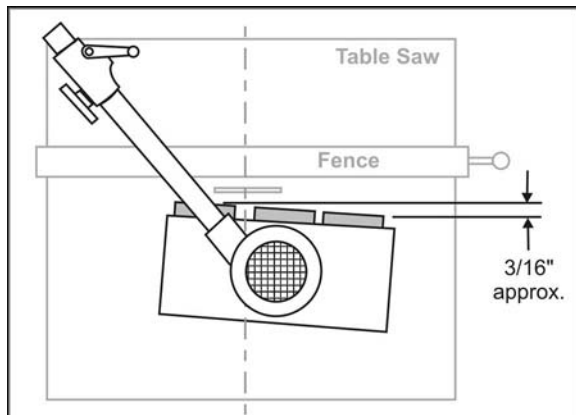

Figure 20
- Position the 3-roller stock feeder so that the axis of the saw blade lines up between the center roller and outfeed roller. (See Figure 20.) Position the 4-roller stock feeder so that the axis of the saw blade lines up between the center wheels. These positions will allow the Stock Feeder to grip the offcut of the workpiece as it leaves the blade.
- Rotate the Stock Feeder so that the direction of feed is angled slightly toward the fence by approximately $3/16''$ (5mm); that is, the outfeed roller should be slightly closer to the fence than the infeed roller. See Figure 20.